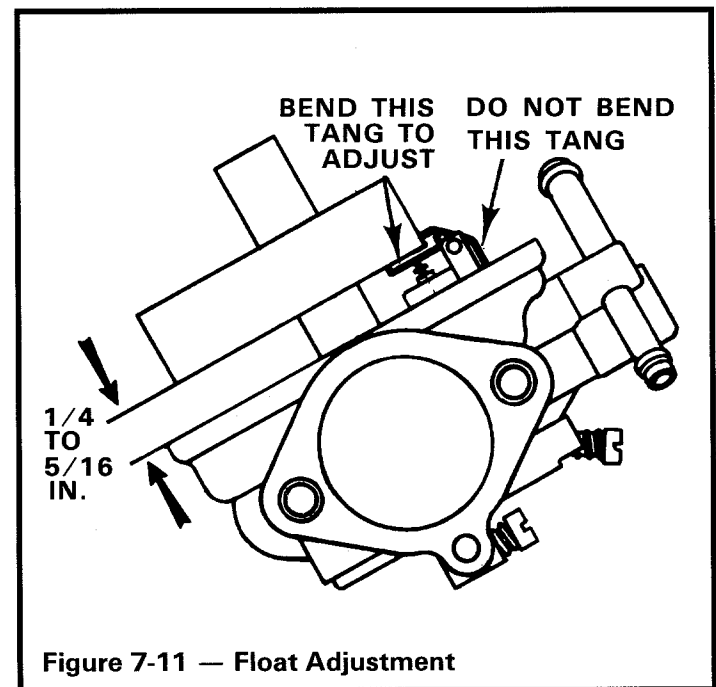

Figure 7-11 — Float Adjustment
1. Adjust the float level before installing the float bowl. With the carburetor in an inverted position, the float should be approximately 1/4 to 5/16 in. above the body in the carburetor when the tang on the float arm contacts the inlet needle (Figure 7-11).